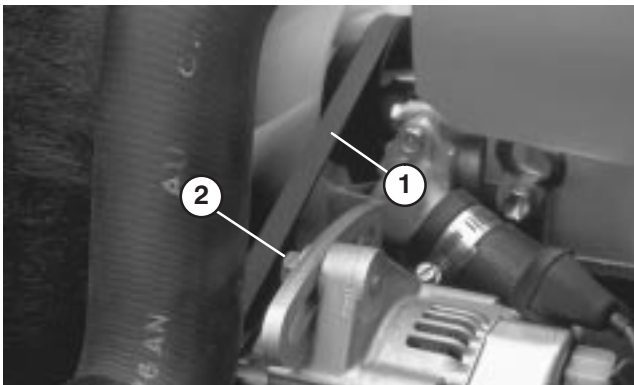

Figure 35
2. Loosen bolt securing brace to engine and bolt securing alternator to brace (Fig. 35).
1. Loosen bolts securing brace to engine and alternator to brace (Fig. 35).